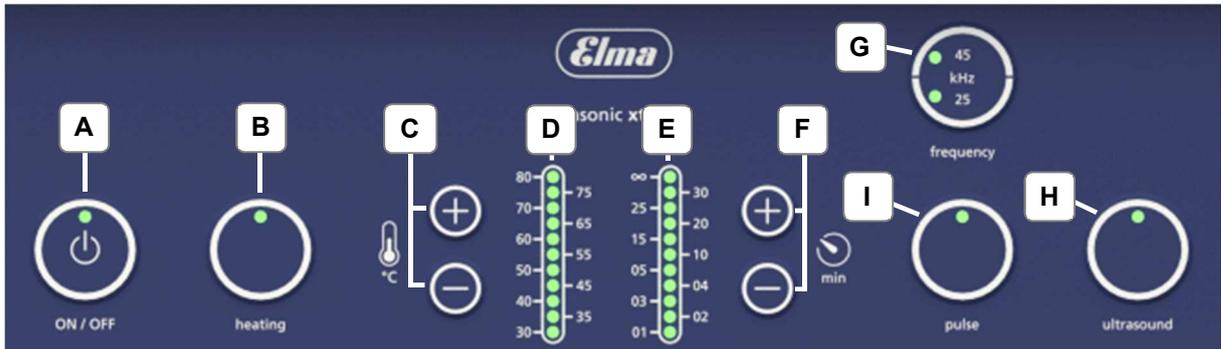

Fig. 4.11 Operating panel
1. Press the key *on/off* (Fig. 4.11.A), the green LED in the key is lighted.
2. Press the key *heating* (Fig. 4.11.B), the green LED in the key is lighted.
3. Set the required cleaning temperature by pressing the +/- keys (Fig. 4.11.C), the LED indicating the set temperature is lighted. The heating process is started and the actual temperature is indicated by the flashing LED (Fig. 4.11.D).
1. Activate the ultrasound at the key *ultrasound* (Fig. 4.11.I). The green LED in the key is lighted.
2. Set the required frequency to 45 kHz at the selector key *frequency* (Fig. 4.11.G). The green LED in the key is lighted.
3. Press the key *pulse* (Fig. 4.11.H). The green LED in the key is lighted.
The ultrasonic frequency is set by means of the selector key *frequency*. (Fig. 4.11.G.). The following two frequencies are available: